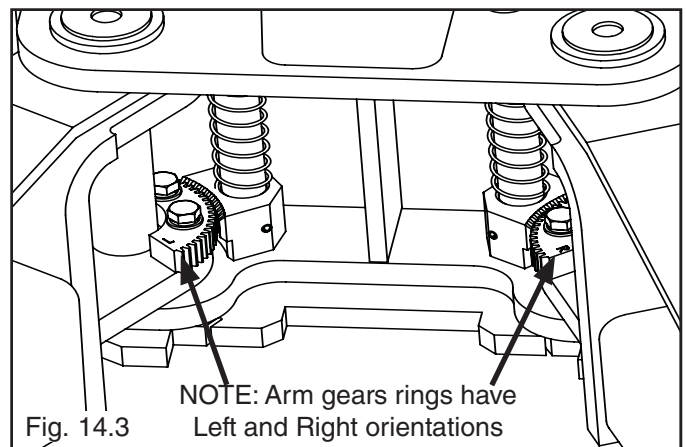

Fig. 14.3
4. Each arm restraint gear can be oriented in a Left or Right configuration on the arms. Each arm and arm restraint gear must be positioned in the proper location in the lift head. (See Fig. 14.3 - 14.4)